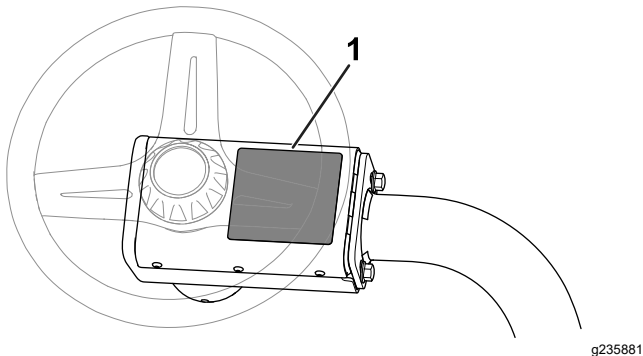

Figure 13
- Apply the CE warning decal (Part No. 136-8505) over the existing warning decal (Part No. 136-8506); refer to Figure 13.